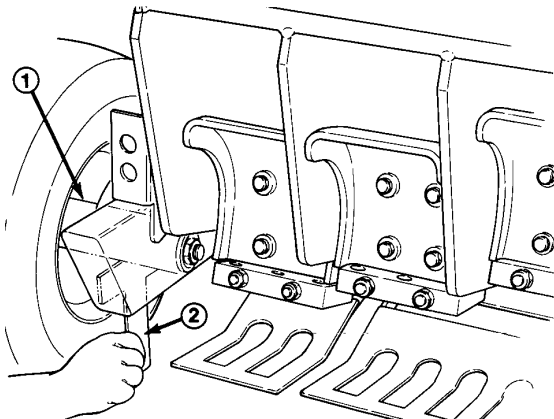

Figure 13
height gauge on each rear wheel spindle (Fig. 13).
4. Repeat the procedure using the long end of the height gauge on each rear wheel spindle (Fig. 13).